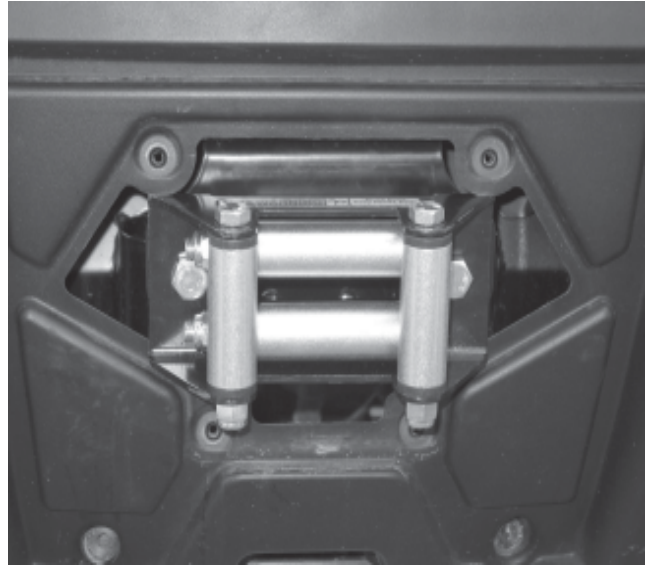

Figure 7
9. If the the roller fairlead contacts the front bumper, spacing the fairlead out with a washer between the fairlead and the bracket or cutting away part of the plastic bumper should alleviate the fit issue, see figure 7 and 8